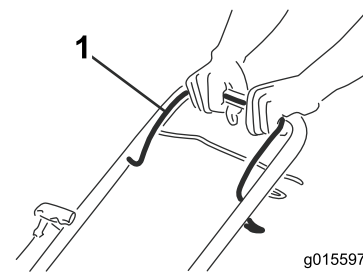

Figure 13
1. Hold the blade control bar (Figure 13) against the handle.